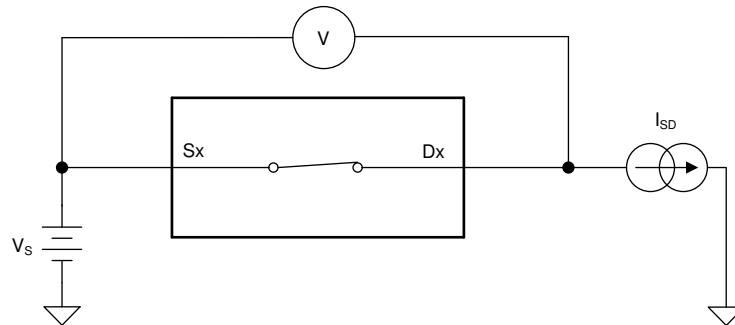

Figure 6-1. On-Resistance Measurement Setup
The on-resistance of a device is the ohmic resistance between the source (Sx) and drain (Dx) pins of the device. The on-resistance varies with input voltage and supply voltage. The symbol R_{ON} is used to denote on-resistance. The measurement setup used to measure R_{ON} is shown in Figure 6-1. Voltage (V) and current (I_{DS}) are measured using this setup, and R_{ON} is computed as shown below with $R_{ON} = V / I_{DS}$: